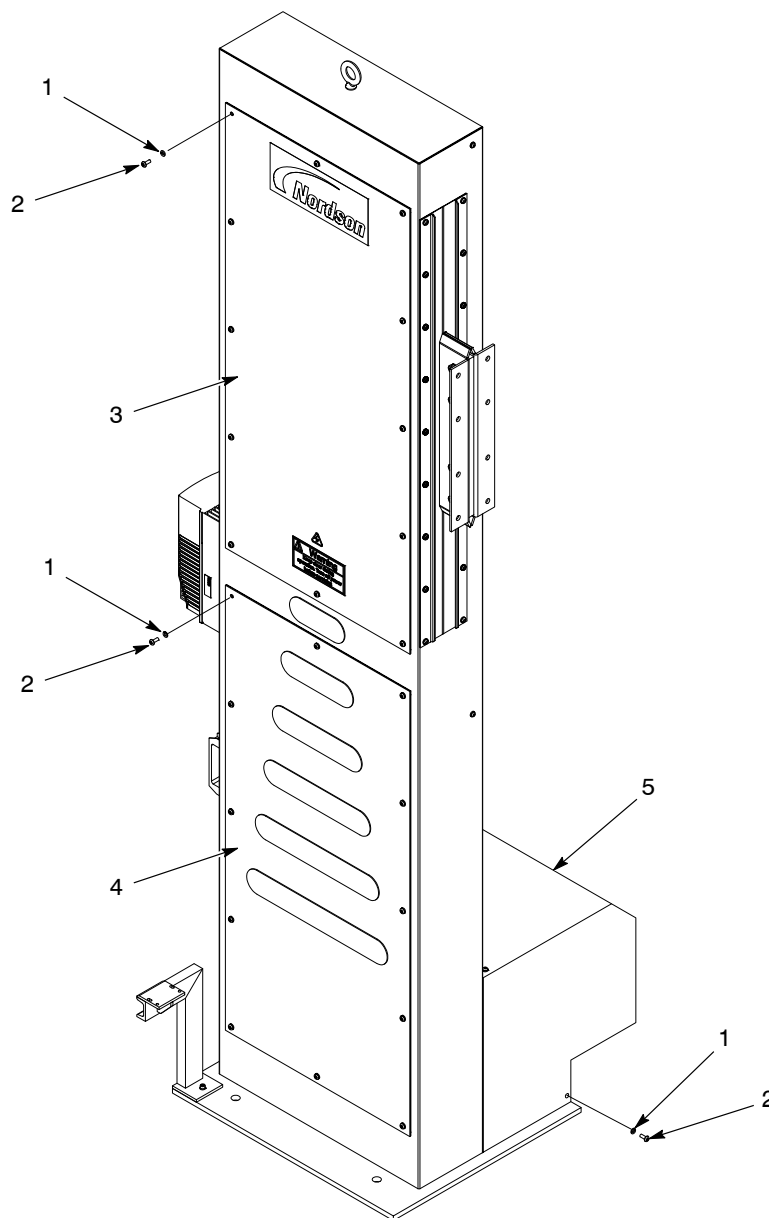

Figure 11 Removing the Covers
1. See Figure 11. Remove the screws (2) and lock washers (1) from the applicable panel (3, 4) or gear motor cover (5) to gain access to an oscillator part.